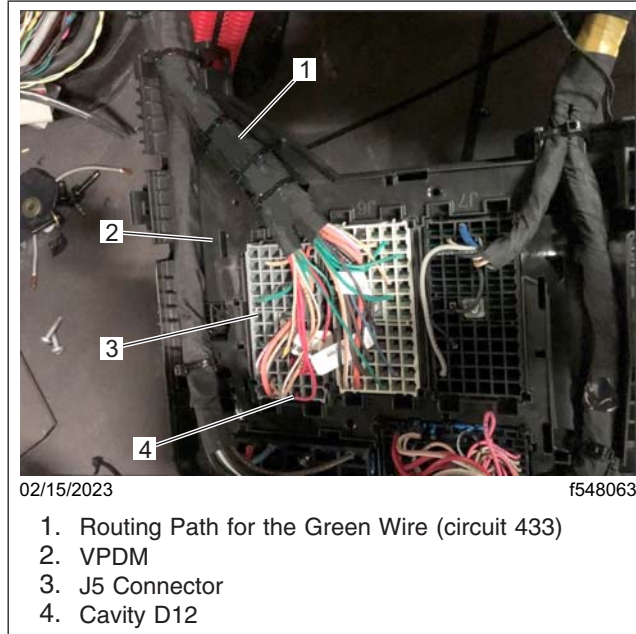

Fig. 18, VPDM J5 Connector
13.3 Route the green wire (circuit 433) along the harness leading to the VPDM connector J5. See Fig. 18.
13.4 At the VPDM J5 connector, check if there is a red wire already populating pin J5/D12. See Fig. 18.